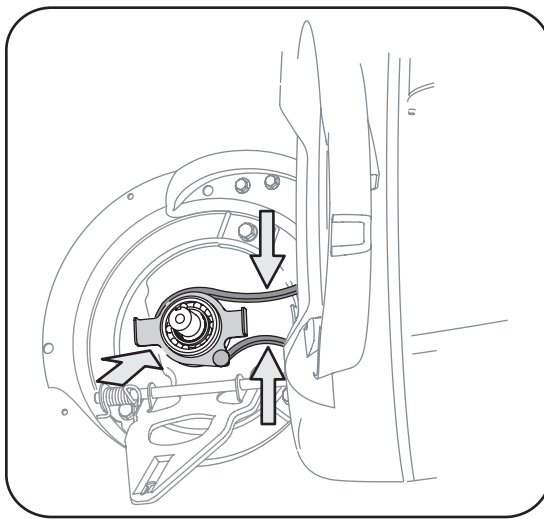

Figure 5-11
17. Pinch both sides of the belt together so that the belt is not in the pulley groove, and the lower pulley can be pushed towards the engine. See Figure 5-11.